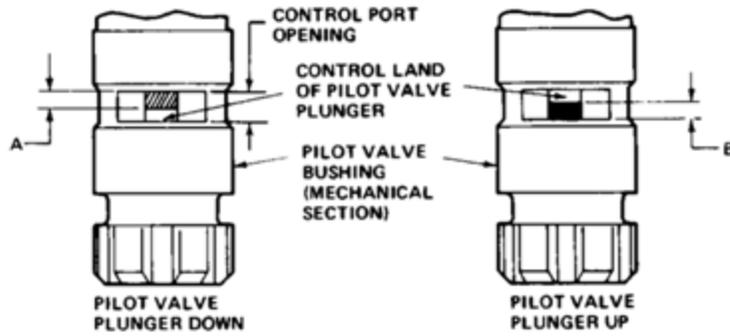

Figure 5-25. Centering Pilot Valve Plunger
21. Install thrust bearing (68) (race1 bearing, race), speeder spring seat (69) on pilot valve plunger (42) and secure with nut (70). Do not tighten nut (70).
22. Check centering of pilot valve plunger by holding the pilot valve bushing with one hand and pushing on the flyweight toes with the other to lower the pilot valve plunger (PVP) as far as possible. Check distance "A". Pivot flyweights out as far as possible and check distance "B". Distance "A" must equal distance "B" when flyweights have been moved from their extreme inward to their extreme outward position, as nearly as can be determined by visual observation. See Figure 5-25.